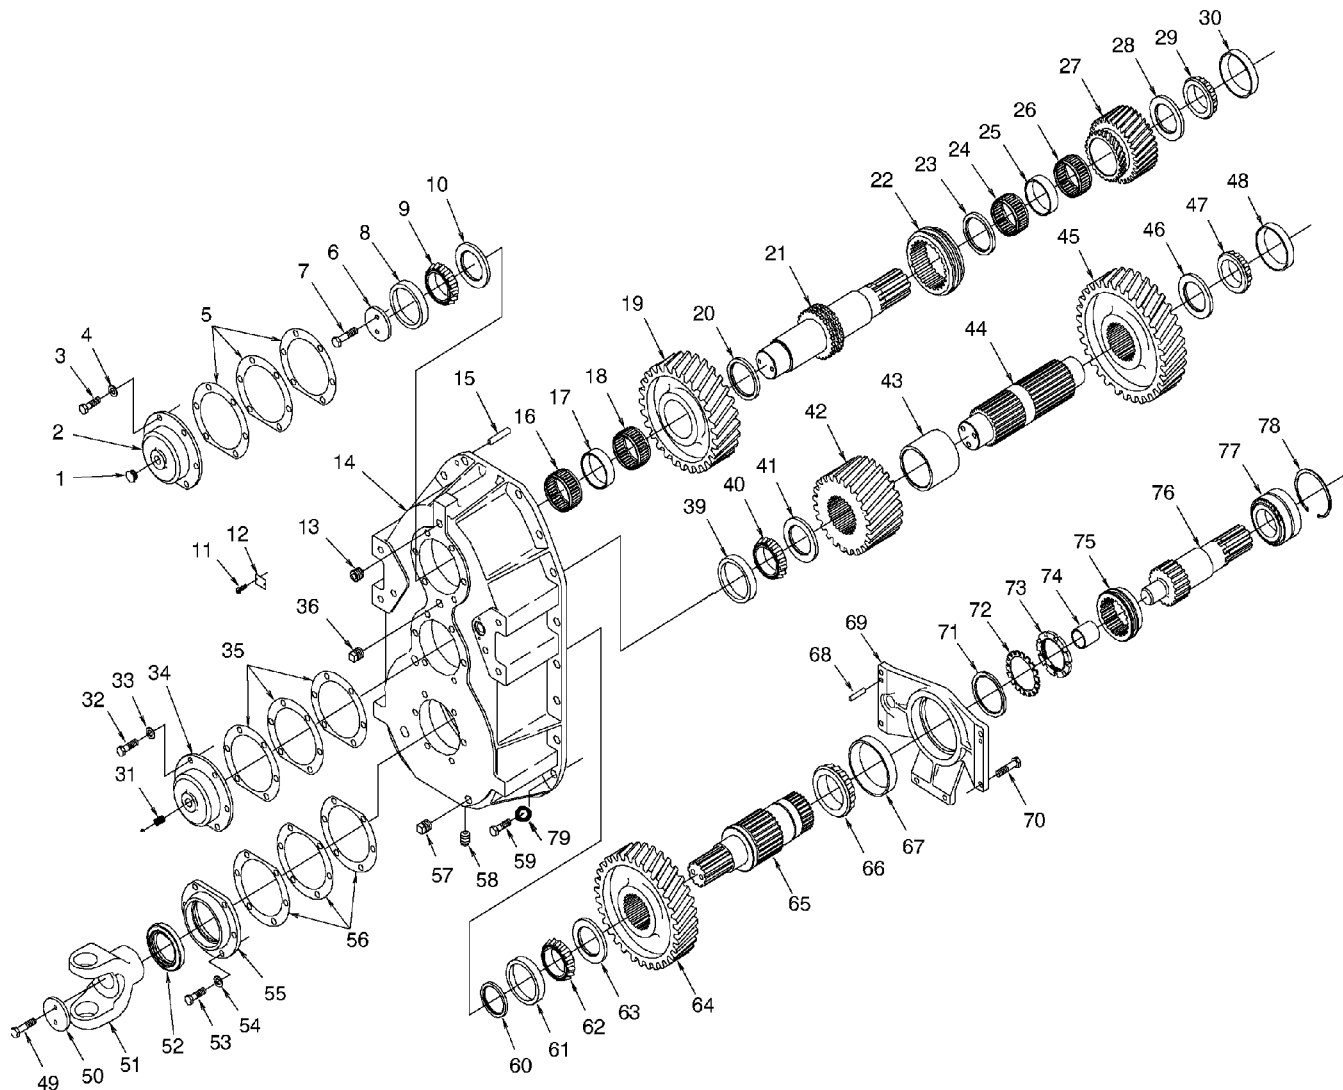
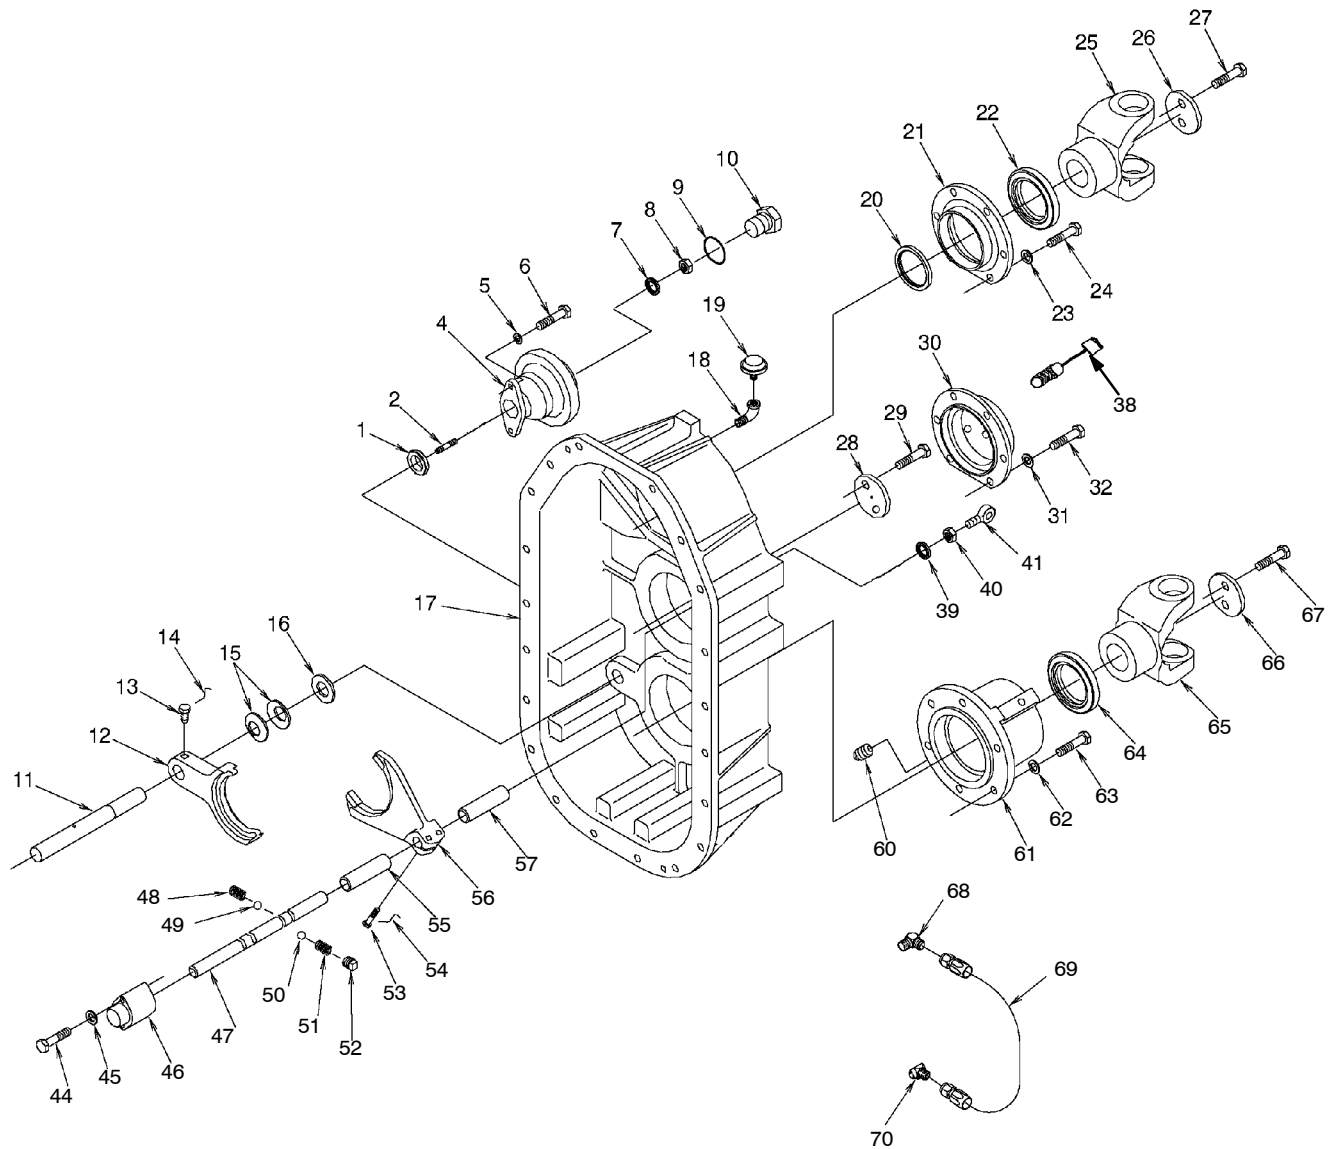

Figure 2. Transfer Case Assembly.
Figure 3. Transfer Case Assembly.
Legend for Figure 2.
Legend for Figure 3.
- (1) Position transfer case in suitable maintenance stand, with front housing facing up.
- (2) Remove speedometer sending unit (Figure 3, Item 38) from front housing (17).
- (3) Tag and disconnect hose (Figure 3, Item 69) from two adapters (68 and 70).
- (4) Remove two capscrews (Figure 3, Item 27) and retaining washer (26) from upper shaft (Figure 2, Item 21).
- (5) With the use of a puller, remove yoke (Figure 3, Item 25) from upper shaft (Figure 2, Item 21).
- (6) Remove two capscrews (Figure 3, Item 67) and lock plate (66) from shaft (Figure 2, Item 76).
- (7) With the use of a puller, remove yoke (Figure 3, Item 65) from shaft (Figure 2, Item 76).
- (8) Loosen jam nut (Figure 3, Item 40), and remove rod end (41), jam nut (40), and oil seal (39) from upper shift rod (47).
- (9) Remove breather (Figure 3, Item 19), elbow (18), and two adapters (68 and 70) from front housing (17) and bearing cap (61).
- (10) Remove plug (Figure 3, Item 10), pre-formed packing (9), locknut (8), and copper washer (7) from air shift chamber (4).
- (11) Remove two capscrews (Figure 3, Item 6), lockwashers (5), air shift chamber (4), and pilot ring (1) from front housing (17).
- (12) Remove six capscrews (Figure 3, Item 63), lockwashers (62), bearing cap (61), and lower front output shaft assembly from front housing (17).
- (13) Remove declutch collar (Figure 2, Item 75) from fork (Figure 3, Item 12) and lower rear output shaft (Figure 2, Item 65) through the front housing (Figure 3, Item 17) cover opening.
- (14) Remove outer detent plug (Figure 3, Item 52), spring (51), and ball (50) from rear housing (Figure 2, Item 14).
- (15) Remove six capscrews (Figure 3, Item 32), lockwashers (31), and end cap (30) from front housing (17).
- (16) Remove six capscrews (Figure 3, Item 24), lockwashers (23), and end cap (21) from front housing (17).
- (17) Remove oil seal (Figure 3, item 22) from end cap (21).
- (18) Rotate transfer case so that the rear housing (Figure 2, Item 14) is facing up.
- (19) Remove two capscrews (Figure 2, Item 49) and retainer washer (50) from shaft (65).
- (20) With the use of a puller, remove yoke (Figure 2, Item 51) from shaft (65).
- (21) Remove six capscrews (Figure 2, Item 53), lockwashers (54), end cap (55), and three shims (56) from rear housing (14).
- (22) Remove oil seal (Figure 2, Item 52) from end cap (55).
- (23) Remove six capscrews (Figure 2, Item 32), lockwashers (33), end cap (34), and three shims (35) from rear housing (14).
- (24) Remove six capscrews (Figure 2, Item 3), lockwashers (4), end cap (2), and three shims (5) from rear housing (14).
- (25) Remove magnetic plug (Figure 2, Item 58) from rear housing (14).
- (26) Remove two capscrews (Figure 3, Item 44), lockwashers (45), and upper shift rod cover (46) from rear housing (Figure 2, Item 14).
- (27) Rotate transfer case so the front housing (Figure 3, Item 17) is facing up.
- (28) Remove 20 capscrews (Figure 2, Item 59), and flatwashers (Figure 2, Item 79) from transfer case halves.